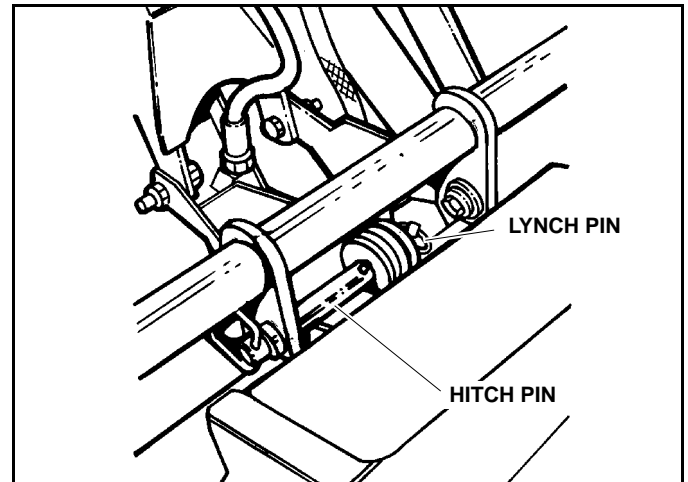

Figure 1-5
6. Remove Lynch Pin from center Pivot Hitch Pin and pull upward on bell crank-lift bar assembly until Pivot Hitch Pin can be easily removed. (See Figure 1-5)